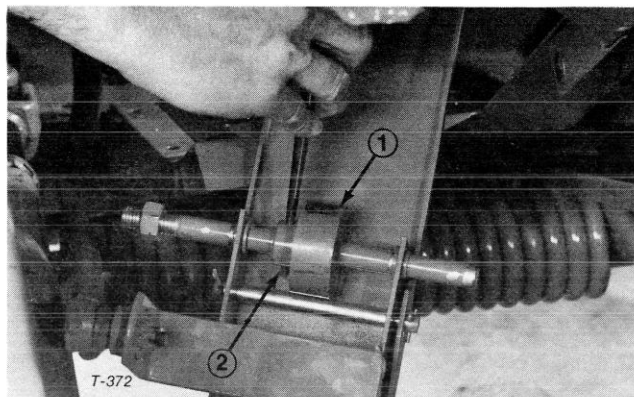

Figure 17
4. Drive roll pin out of friction wheel and traction pedal shaft (Fig. 17). Discard roll pin.